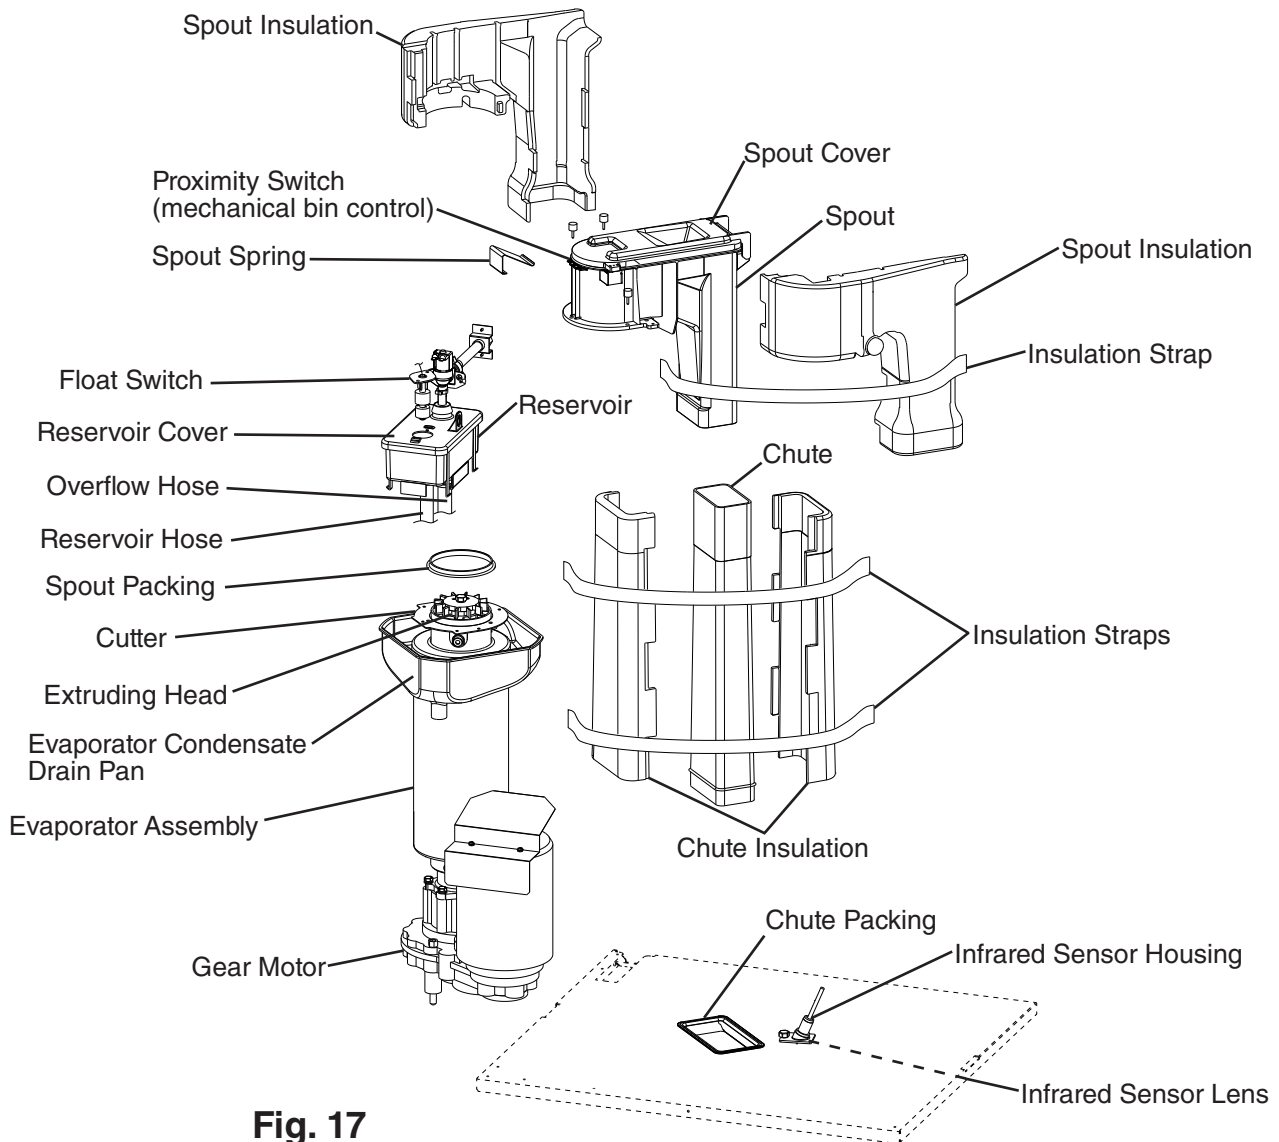

Fig. 17
- 6) Remove the spout spring, then open the spout cover. See Fig. 17.